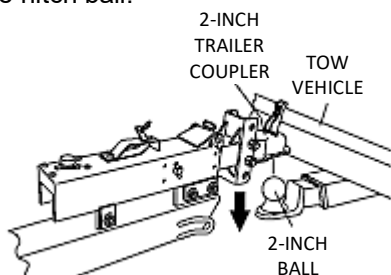

Figure 2-D. Ball Hitch Coupling Mechanism
- Lower the trailer (Figure 2-D) until the coupler fully engages the hitch ball.